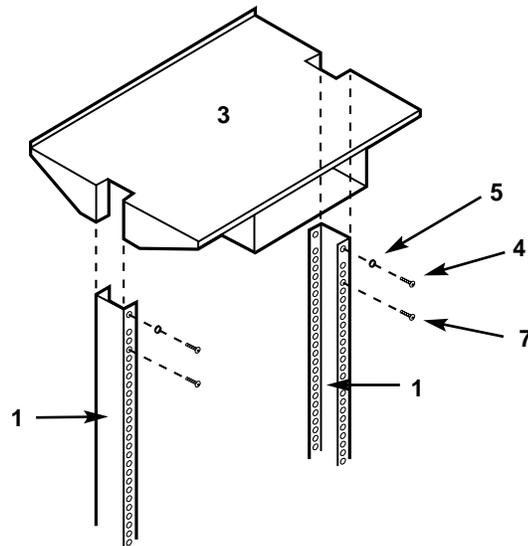

Figure 3-2. Attaching the monitor shelf at the top of the Serv Rack.
2. Align the holes in the monitor shelf with the corresponding holes in the vertical upright channels as shown in Figure 3-2.
3. If you're going to install the shelf at the top of the Rack, as shown in Figure 3-2, install four of the included hex-head bolts and lock washers, then install four of the included panhead screws, tightening everything by hand only.